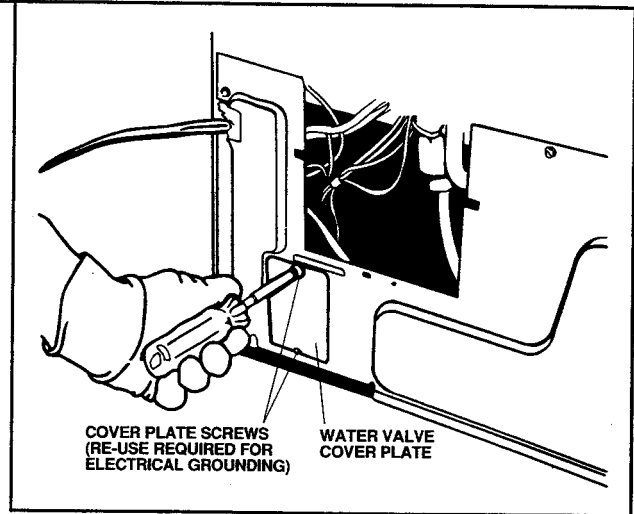

Figure 21
- b. Remove and save the two (2) screws from the water valve cover plate. See Figure 21. Discard the water valve cover plate.